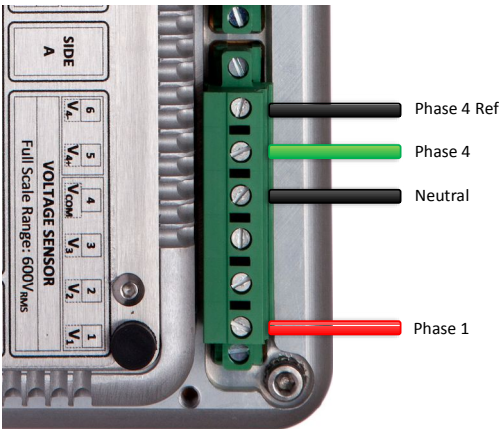

Figure 61: Impedo DUO single-phase connection
- Connect the phase Voltage to Voltage Inputs 1 as shown in Figure 61.